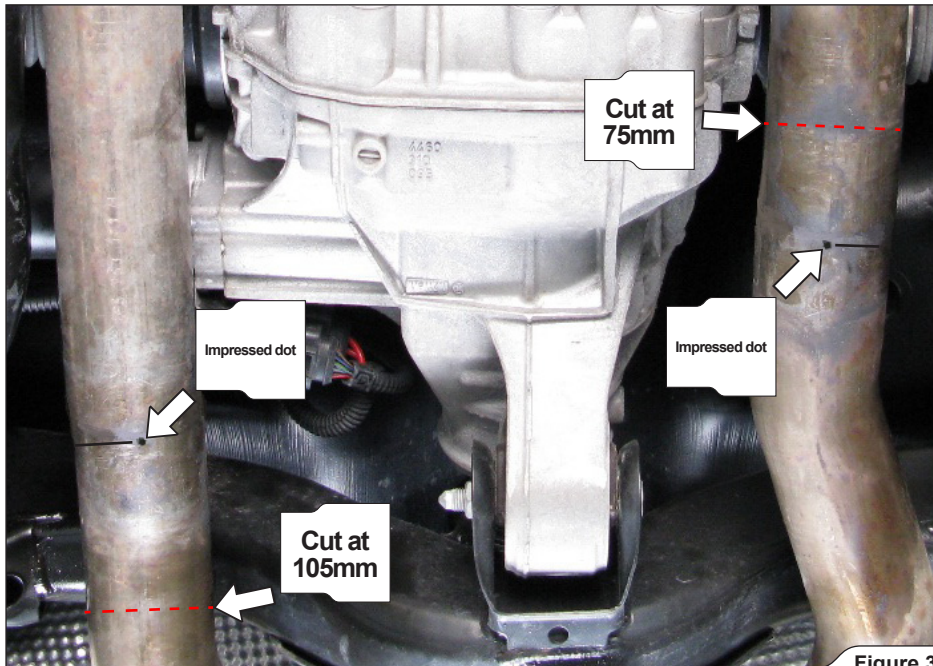

Figure 3
3. **For Diesel S model only:** mark the stock muffler's inlet pipes exactly as shown (**left pipe: 105mm** from the impressed dot - towards the front of the vehicle and **right pipe: 75mm** from the impressed dot - towards the back of the vehicle). Carefully cut the pipes, using pipe cutting tool or equivalent (**Figure 3**).